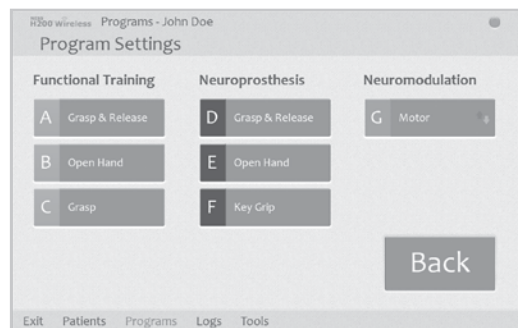

Figure 8-17: Program Settings Window
1. From the Programs menu, press Program Settings to open the Program Settings window. See Figure 8-17.